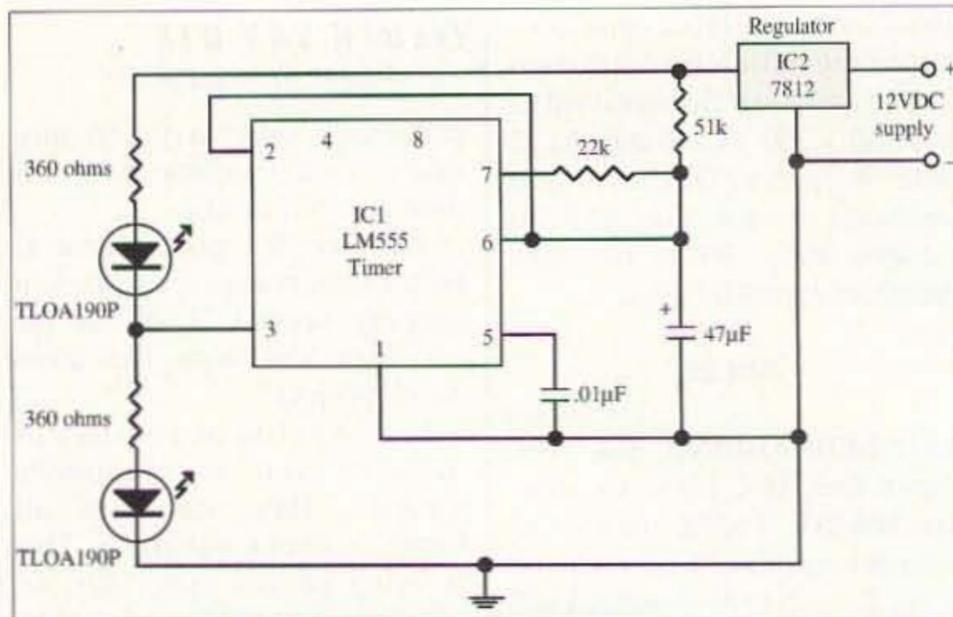

Fig. 2. N4UAU's "winking" pumpkin eyes. LEDs D1 and D2 will alternately be lit for approximately one-second intervals.
• I tried using several TLOA 190P(WX) LEDs for the purpose of chart table illumination as Frank suggested. I tied several together in series, with a single current limiting resistor, and powered the series string from the ship's 12V battery, but these LEDs are so spot-focused that it didn't work well enough for me in this application. All I achieved were several bright red spots, fairly close together. Perhaps a less bright, less spot-focused LED would work better (as Frank recommended in his article), or perhaps a defocusing (diffusion) lens arrangement would help. I didn't feel that it was worth the effort in my own case to experiment any further at the time.
• I use the LED as a general night light on the boat... actually, I leave it on all the time. With a 2.2k resistor in series with the Toshiba TLOA190P(WX) and powered by the ship's 12V battery, current draw is a minuscule 5mA and it projects a nicely focused light on the companionway steps leading below decks.
• I've found that it's even useful for holiday decorations. As just one example, I put two of these Toshiba LEDs into a carved Halloween pumpkin, along with a little solid-state flasher circuit, to achieve a pair of 'winking goblin eyes,' much to the delight of the neighborhood kids! Fig. 2 shows the basic LM555 flasher circuit that I used. There must be some application hidden in here for Christmas as well!